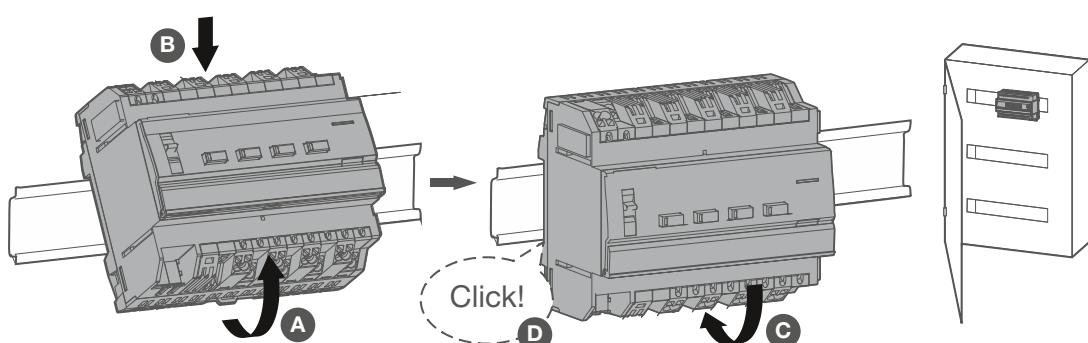

Fig. 5: Mount the device on the DIN rail
- Installation on DIN rail after TH 35 7.5-15 according to IEC 60715:2017 / EN 60715:2017 ( Fig. 5: Mount the device on the DIN rail )